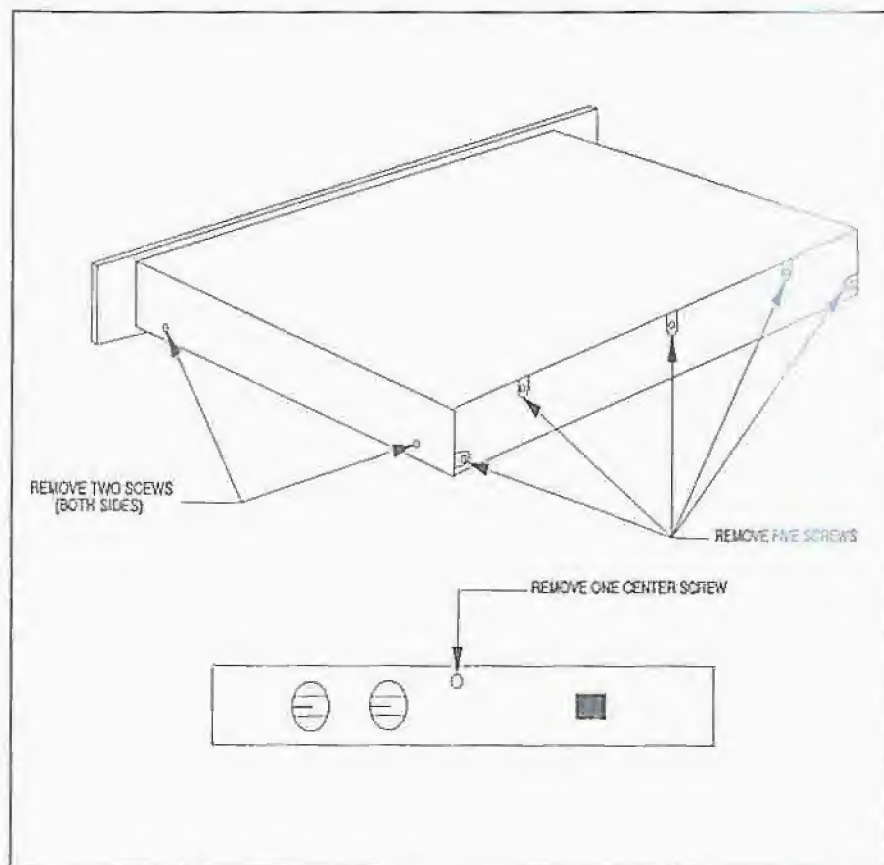

Figure 1 Top Cover Removal
2. Remove and save the ten screws securing the top cover. Refer to Figure 1 for the exact screw locations.